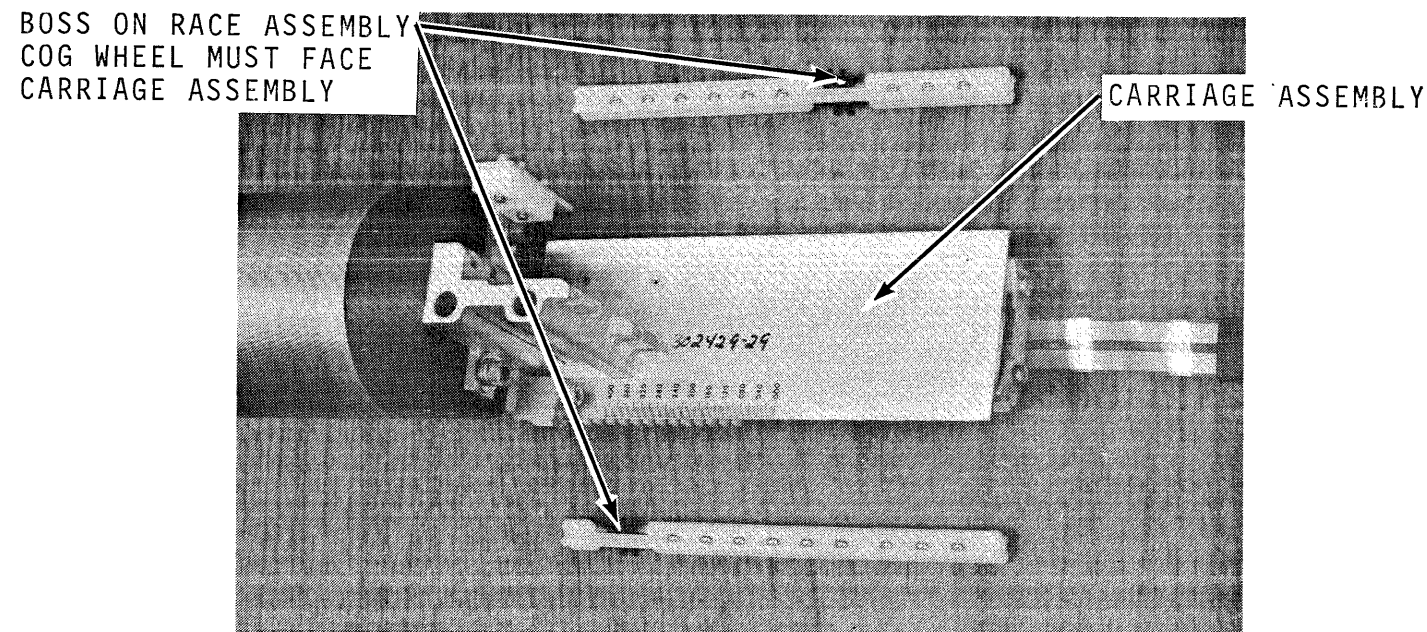

Figure 7-29. Race Assembly Installation
6. Install race assemblies in the carriage assembly as shown in Figure 7-29.